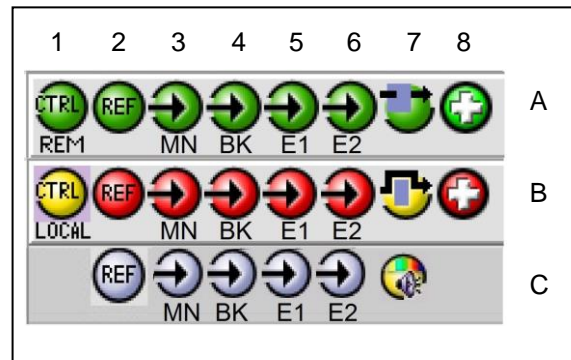

Figure 7 – Status Icons
1. The Status Icon area shows a series of seven icons that report the status of some card parameters. **Figure 7** shows the various forms that may appear; their meaning is described below.